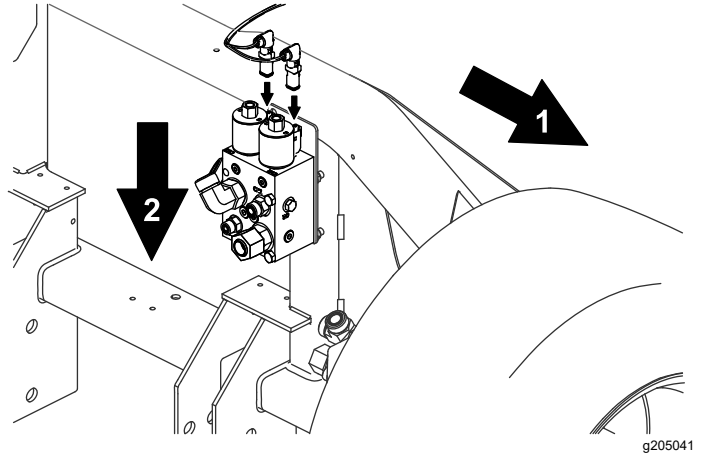

Figure 26
3. Route the remaining loose harness ends down around the lower frame and connect them to 2 coils on the flow-divider manifold just inside of the right, front tire (Figure 26).